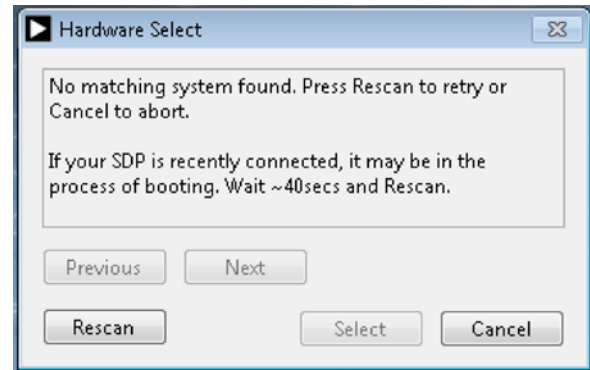

Figure 3. SDP Board to Evaluation Board Error Message
3. If the SDP board is not connected to the evaluation board, a message box appears as shown in Figure 3. Check the connection between the SDP and EVAL-AD5666SDZ boards and then run the program again.